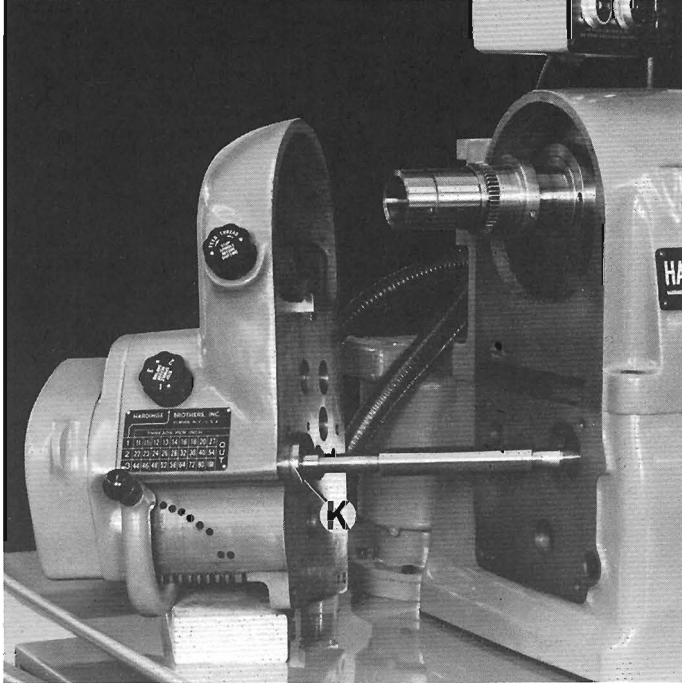
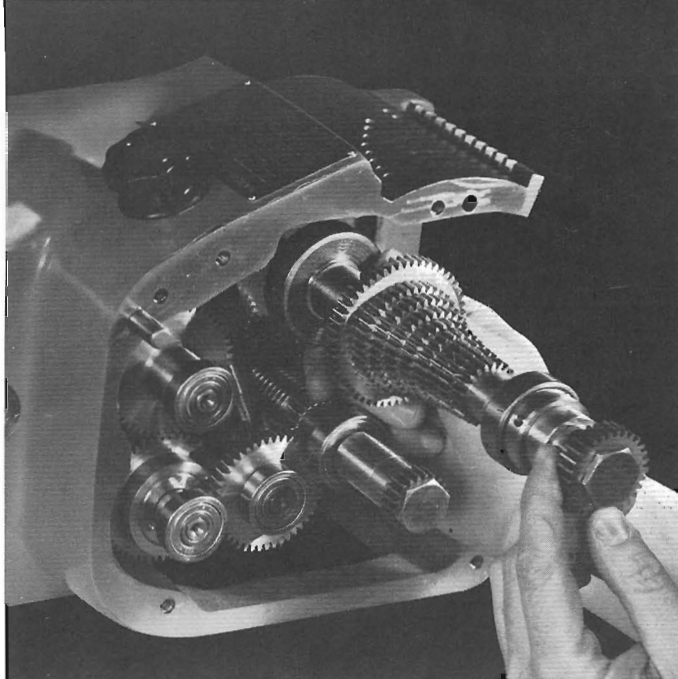

Figure 25 — Gearbox Removal
Figure 34 — Cluster Shaft Assembly Removal
12. Pull gear box straight off to remove, Figure 25.
11. Remove cluster shaft assembly, Figure 34.
5. Replace cluster shaft assembly, Figure 34. Position bearing "K" midway in casting as shown, Figure 25.